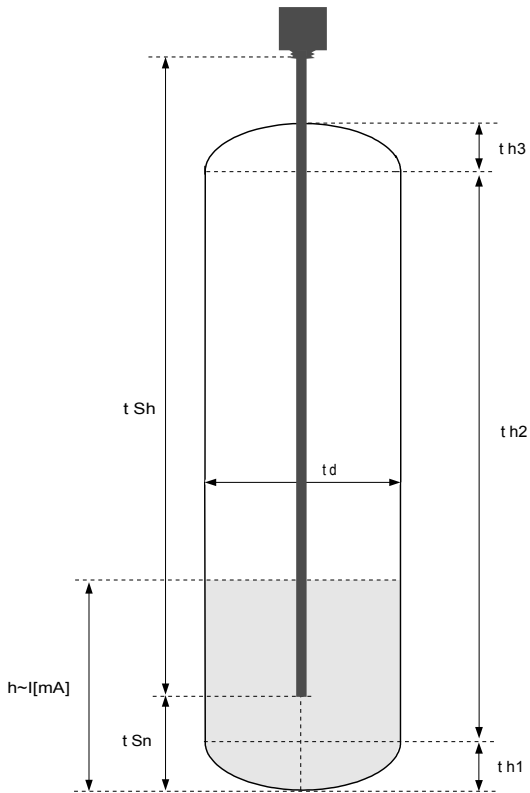
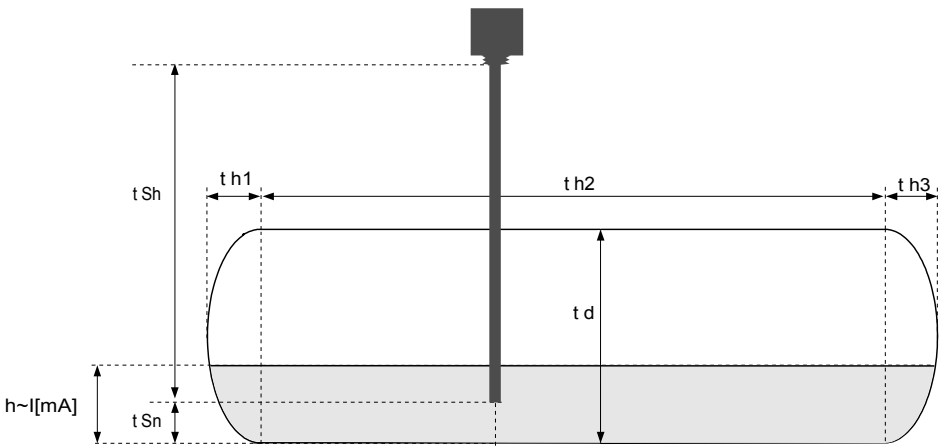

Figure 7.1 Parameters of cylindrical tank in vertical position.
Figure 7.2 Parameters of cylindrical tank in horizontal position.
„t h1”, „t h2”, „t h3”, „t d” - the parameters defining shape of cylindrical tank (Figure 7.1 and Figure 7.2).
- „**t Sn**”, „**t Sh**” - parameters defining the length and position of the sensor used to measure level of liquids, gases or solids in the tank (Figure 7.1, 7.2).